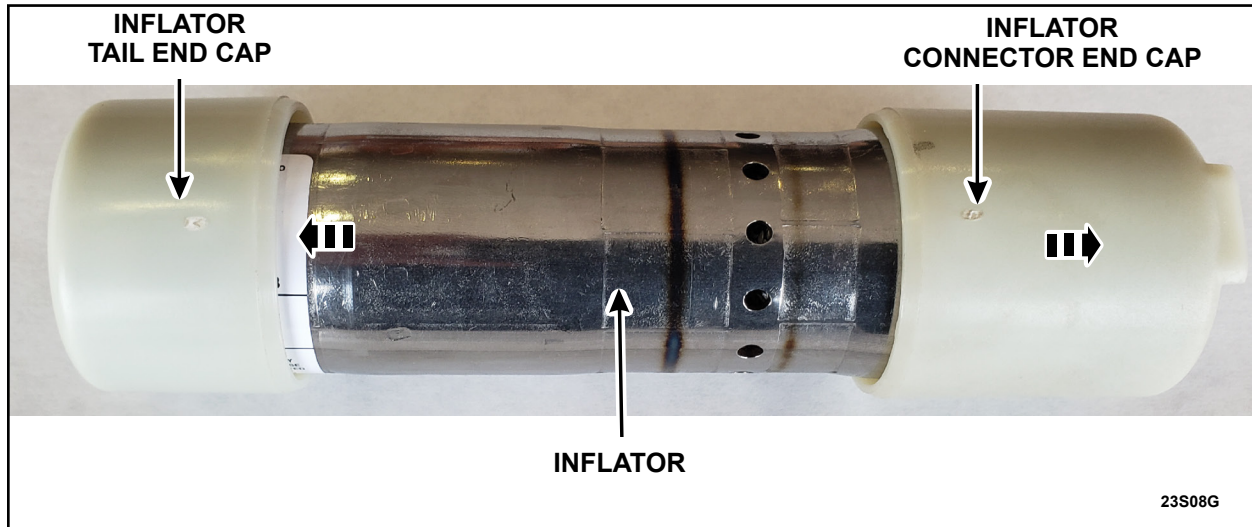

FIGURE 6
7. Remove both end caps from the inflator by pulling them straight off. See Figure 6.